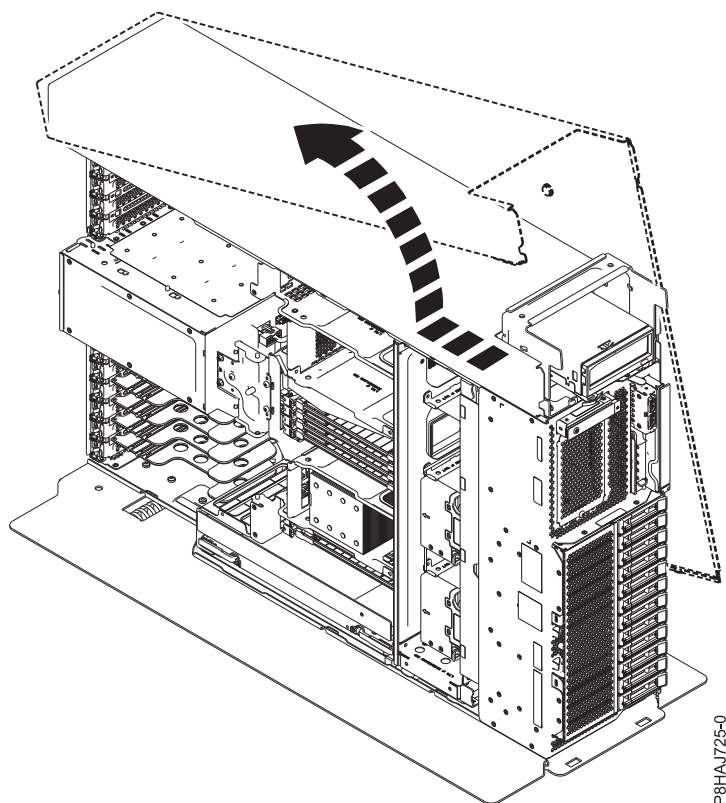

Figure 54. Removing the 8286-41A side cover
5. Slide the side cover off of the system in the direction that is shown in Figure 54 on page 68.